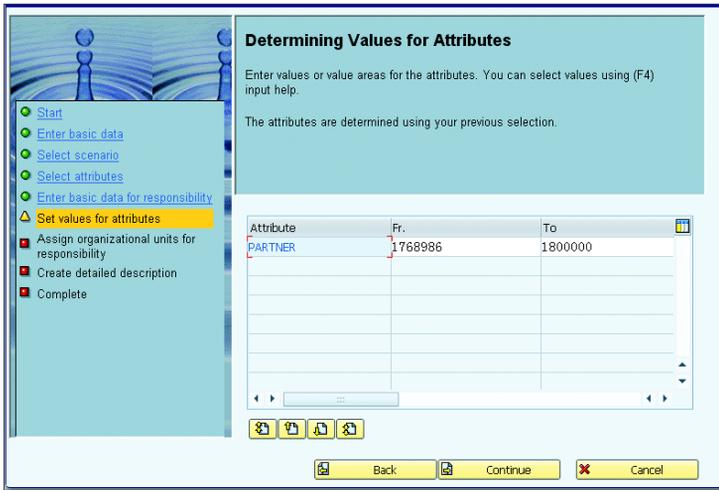

Figure 2.13 Organization Determination from Responsibility Category – Set Values for Attributes
6. Because we've selected the partner attribute, add those partners that you want the specific organization to be determined for (Figure 2.13). Click CONTINUE.